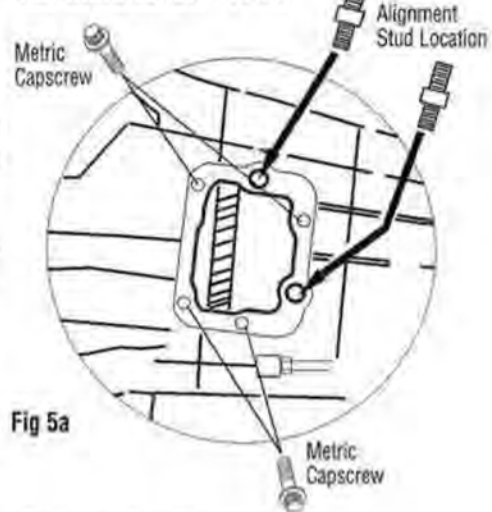
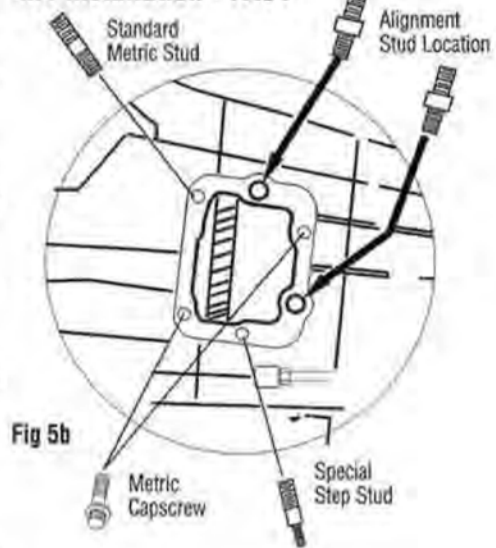

Fig 5a
Fig 5b
- 12.** Locate the stud kit provided with the PTO. The FA62 PTO is provided with 4 capscrews and 2 special studs. The FA64 (4x4) PTO is provided with 2 capscrews and 4 studs. One stud is a 3/8-24 UNF to 10mm PTO stud. This stud should be installed into the upper left hole location as shown (Fig 5b). One of the other studs is a special 5/16-18 UNC to 10mm step stud. The step stud is to be installed into the bottom center hole as shown (Fig 5b). The other 2 studs are special alignment studs. The alignment studs are included in both the FA62 and the FA64 stud kits. These studs are identified by the larger barrel in the middle of the stud and they are plated a blue color. These alignment studs **must** be inserted into the correct hole locations as shown in Fig 5a and 5b.
- 13.** Place the transmission gasket which was removed in Step 4, over the alignment studs making sure that the larger holes in the gasket/shim are located directly over the alignment studs installed in step 12. Place the PTO on to the transmission opening. Make sure the gasket is flat against the transmission (Fig 5a,b).
15a. FA62 (Fig 5a) - Place the PTO into position on the transmission aperture using the alignment studs as guides. Hold the PTO in position and insert the top and bottom 10mm capscrews to hold the PTO while the remaining capscrews are installed (Fig 5a). Install hex nuts on the two remaining studs. Tighten the capscrews to approximately 30 ft.lbs. Tighten the nuts to 35-40 ft.lbs.
15b. FA64 (Fig 5b,5c) - Place the PTO into position over the installed studs. Install the 3/8" hex nut on to the stud, but turn the nut only 4 turns. This will keep the PTO in place so that the bottom lock nut can be installed. Lift the lower portion of the PTO away from the pad and install the 5/16" lock nut to the bottom center stud (Fig 5c). Work the nut flush with the housing making sure that the gasket is in position while turning the nut. Tighten the upper left nut so that it is flush with the housing. Install the remaining 2 capscrews and tighten to approximately 30 ft.lbs. Install the 3/8" hex nuts on the two remaining studs. Tighten all of the 3/8" hex nuts to 35-40 ft.lbs and tighten the 5/16" lock nut to approximately 17 ft.lbs.